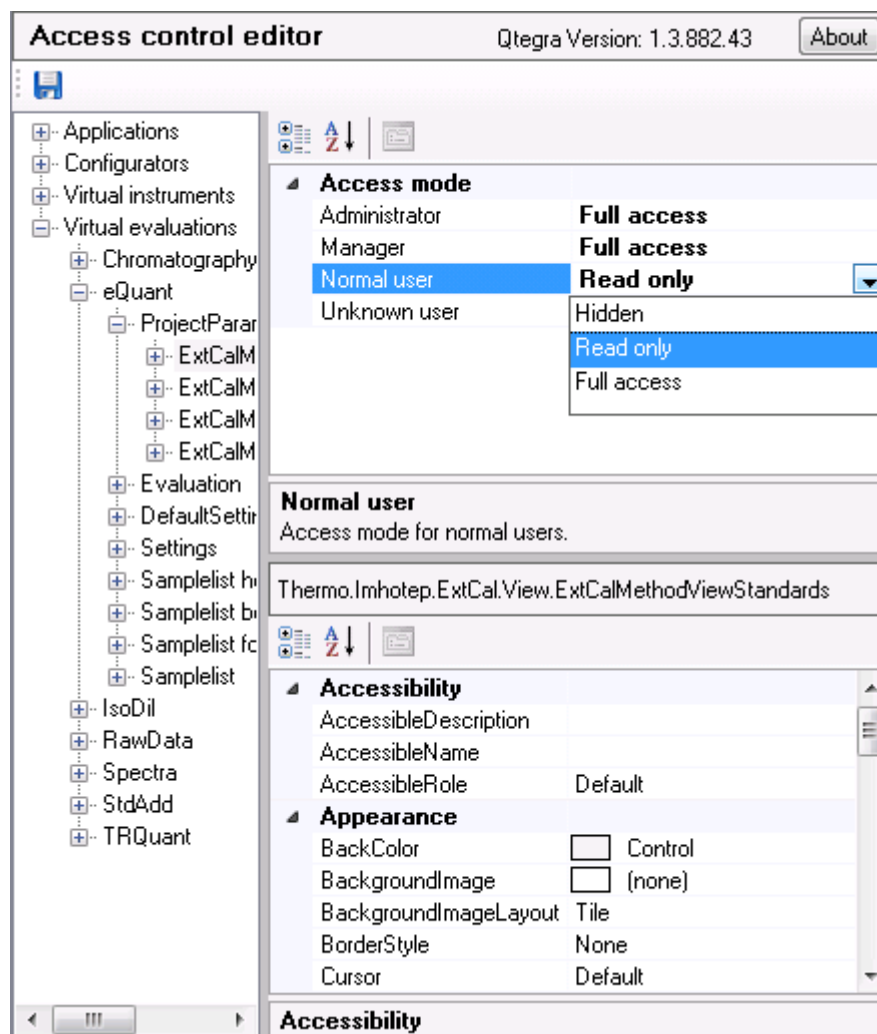

Figure 3-5. List of access rights for user group
5. Click  to display the list of access rights, see Figure 3-5.